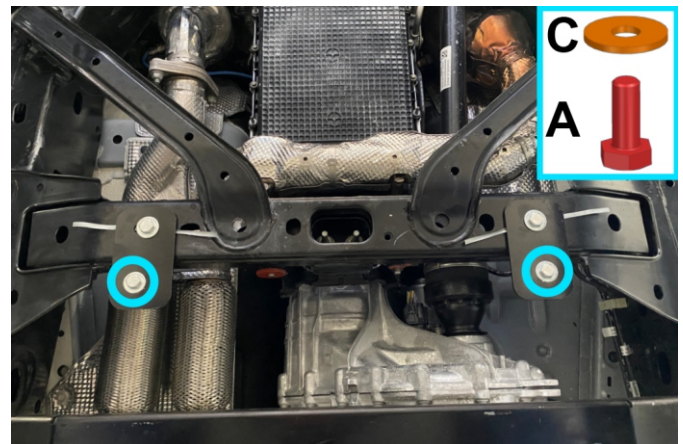

Fig. 10
7. Loosely install supplied M10x1.5x30 bolts (item A) and M10 washers (item C) to brackets (item E) as shown in fig.10.